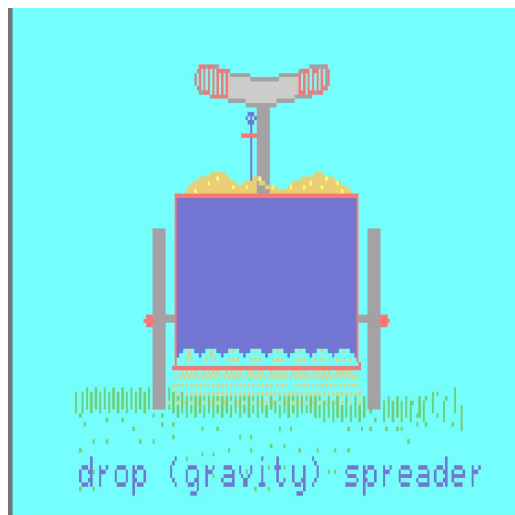
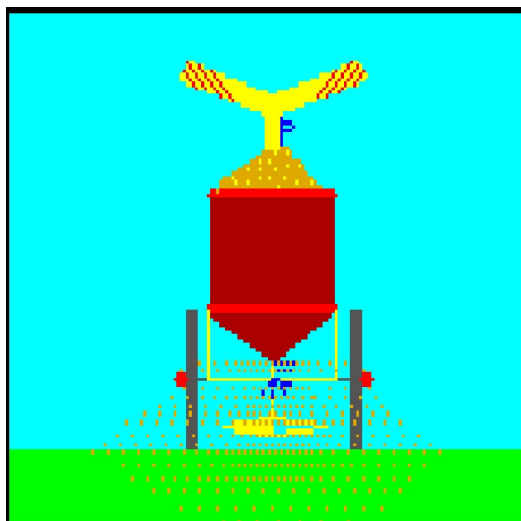

Figure 1.
Figure 2.
Fertilizer application is only effective if you ensure uniform coverage (Plate 22). Dry fertilizers can be applied with either a drop (gravity) spreader (Figure 1) or a rotary (centrifugal) spreader (Figure 2).
Follow these steps, in order, to calibrate your drop-type (gravity) spreader (Figure 1).
3. Rotary spreaders (Figure 2) do not apply a constant amount of material across the entire width of application. More material is applied toward the center and less at the edges. For this reason, the width of application is accurate for a constant application rate only at about $\frac{2}{3}$ (60 to 70%) of the actual width measured. *Example:* If the application width is 12 feet, only about 8 feet or 4 feet across both sides of the spreader, within the band of application, is receiving approximately the same application rate. The other 2 feet on each edge respectively receive much less material than the center area. Once this "effective" width is determined, calibration is fairly simple.